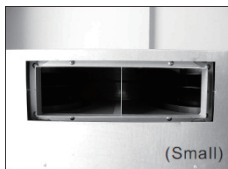

Fig. 4j
- j. Conversion is complete after the adaptor is secured (**Fig. 4j**)